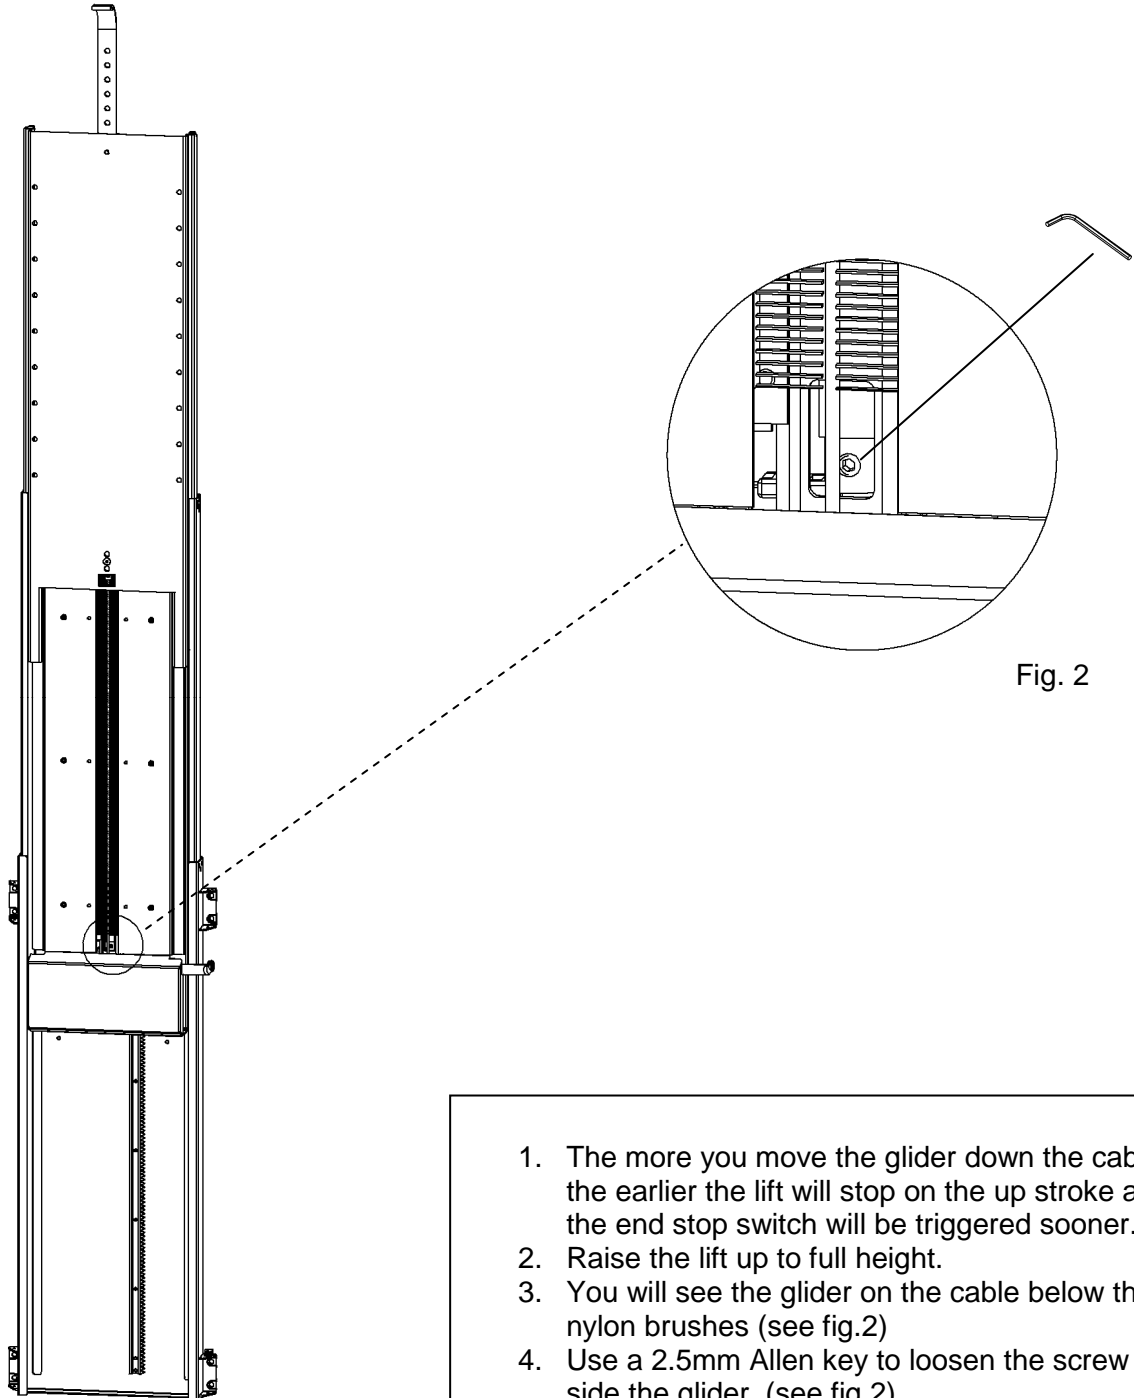

Fig. 2
3. You will see the glider on the cable below the nylon brushes (see fig.2)
4. Use a 2.5mm Allen key to loosen the screw inside the glider. (see fig.2)